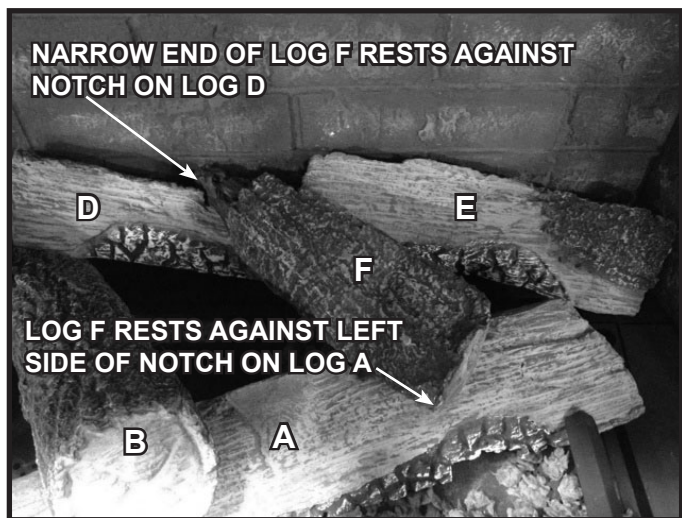

Figure 10. Log F Installed
6. **(LOG F):** Place the narrow end of Log F into appliance as shown in Figure 10. The narrow end of the log will contact the back brick refractory, or be about 1/2 inch away from the optional black glass refractory, and rest against the notch on Log D. The front of Log F rests in the notch on Log A. Log F should contact the left edge of the notch on Log A.